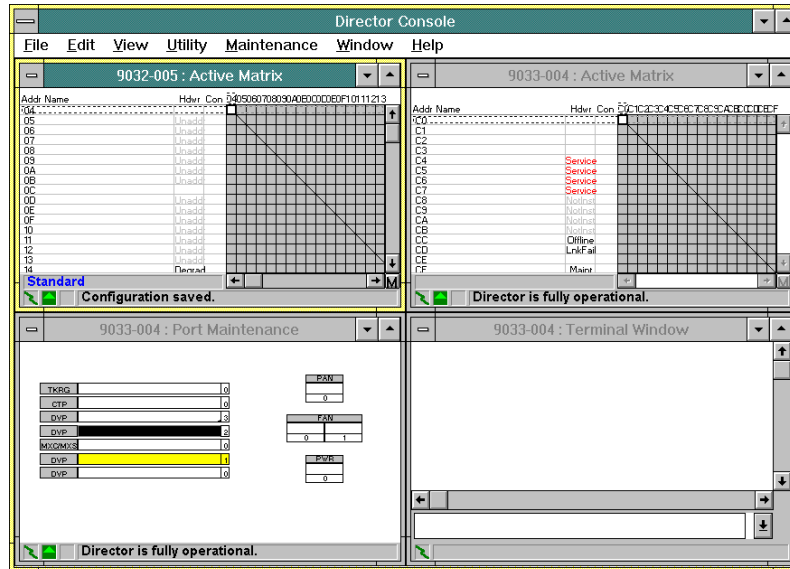

Figure 54. Tiled Windows
- **Tile** - This option arranges all windows (that are open and visible) to a size small enough to simultaneously fit in the application window without overlapping (Figure 54). The size and position of the tiles is a function of the number of open windows.